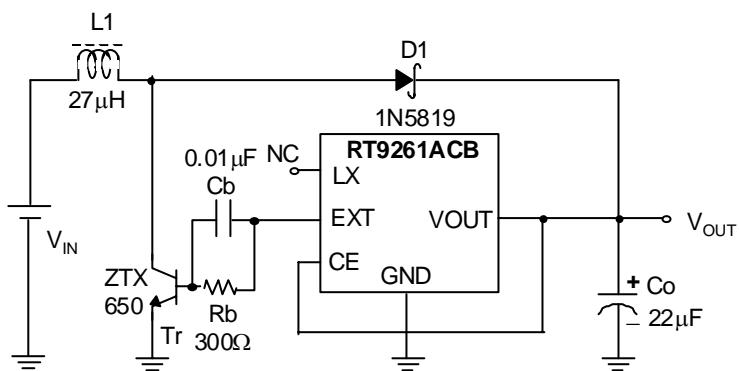

Fig. 4
**Electrical Characteristics** (Refer to Fig. 4)